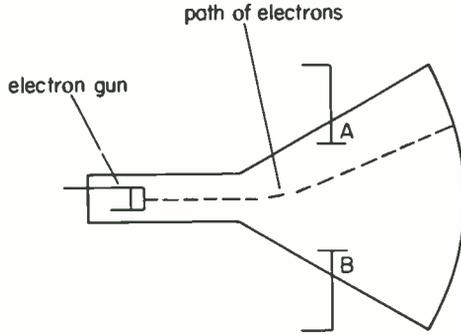

Fig. 11
9. In a cathode-ray tube (your TV picture tube, for example), a stream of electrons is shot from an electron gun as shown by the dashed lines in Fig. 11. Plates *A* and *B* are oppositely charged, so that one attracts and the other repels the electron beam, thereby bending it toward plate *A* as shown. In Fig. 11, then, plate *A* is positively charged, and plate *B* is negatively charged.